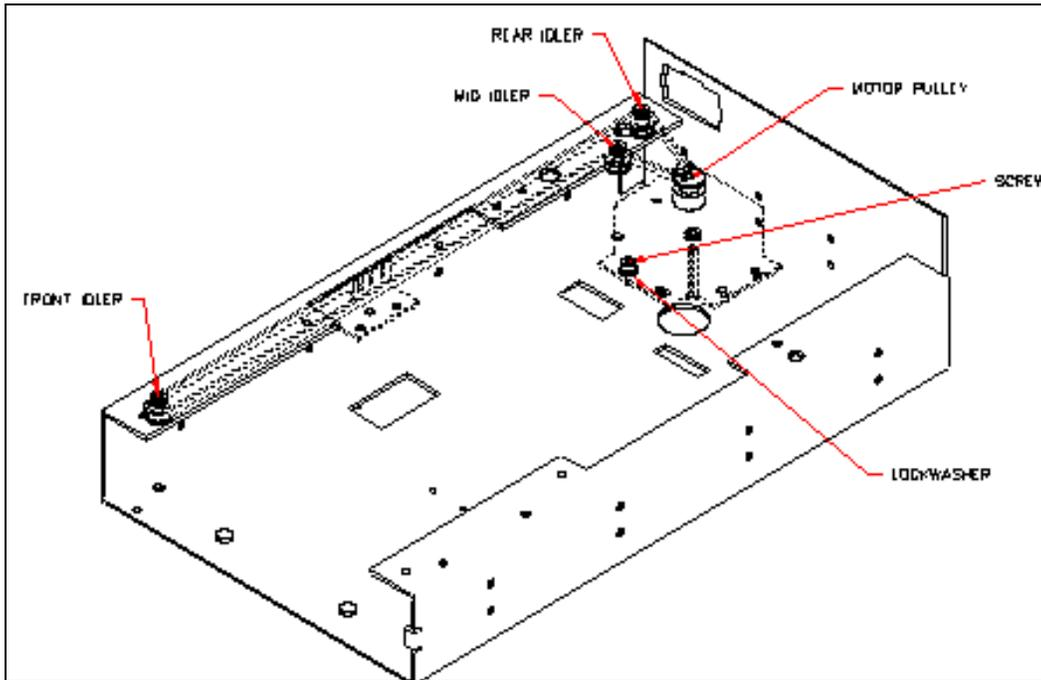

Figure 9-14 Incubator Drive Belt
The drive belt draws the plate into the module, and delivers the plate from the module in position. It is powered by the plate carrier motor and is wrapped around three idlers as shown in Figure 9-14.
- 3 Loosen the motor from the chassis (Figure 9-14) by slightly unscrewing the four M3 x 6mm socket head cap screws.
- 4 Wrap the belt around the middle idler, around the back idler, and around the front idler (Figure 9-14), then loop it around the motor assembly. Pull motor to right until tight and tighten the screws.
- 3 Remove the pulley assembly from motor shaft by loosening the set screw (Figure 9-14)